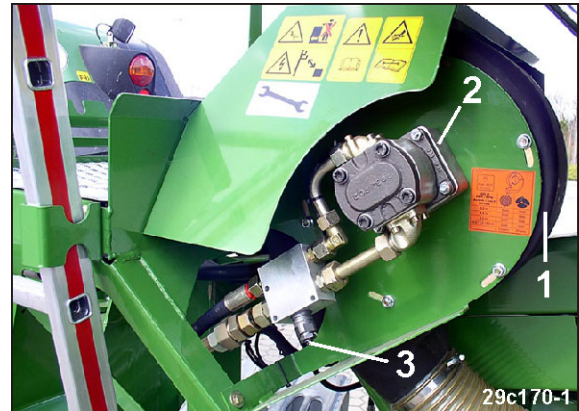

Fig. 73
The hydraulic motor (Fig. 73/2) drives the blower (Fig. 73/1) and generates an air current. The air current conveys the seeds from the injector sluice to the coulters.
- via the pressure relief valve (Fig. 73/3) of the hydraulic motor.